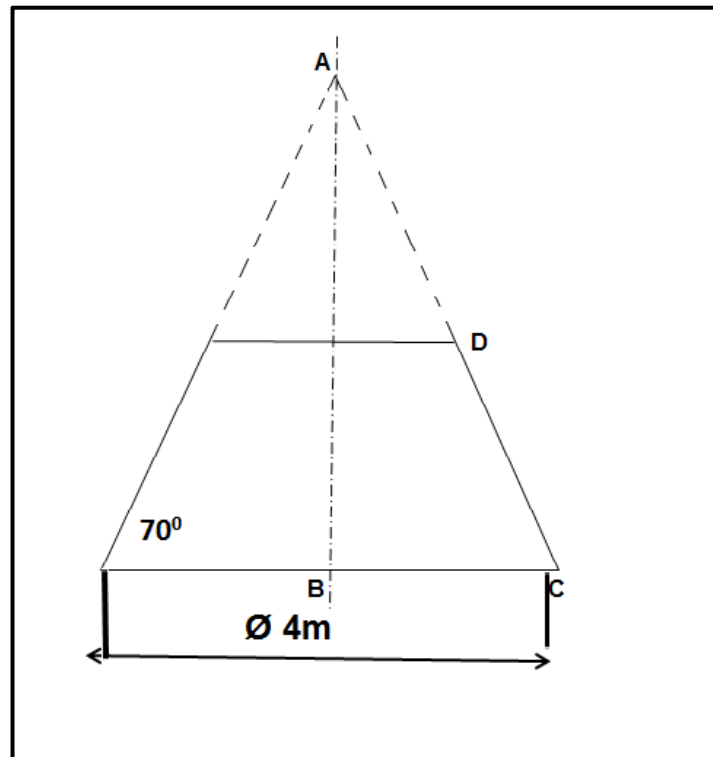

FIGURE 11.1
11.1 FIGURE 11.1 below shows a conical hopper.